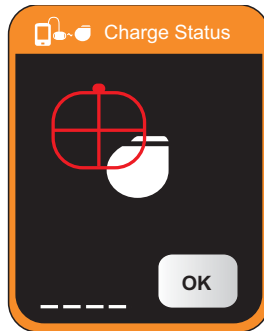

Figure 54. Aligning the charging paddle for maximum efficiency
6. Move the paddle back and forth over your stimulator until the alignment icon appears.(Figure 54).